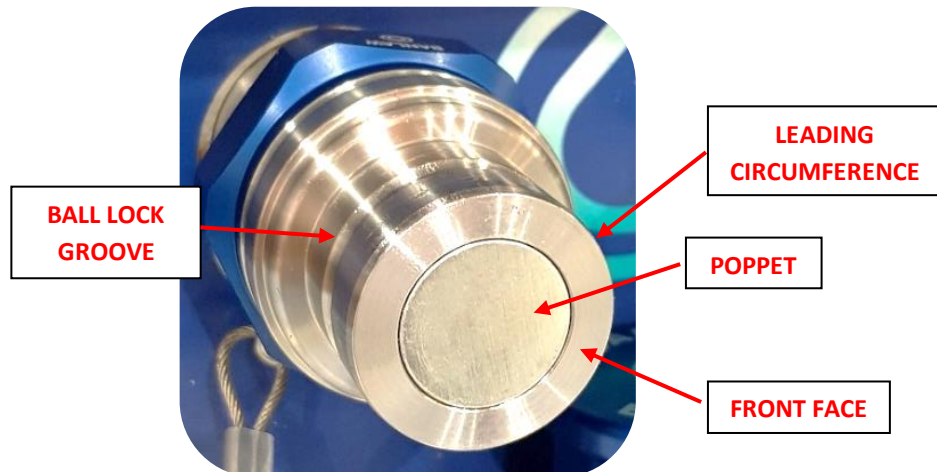
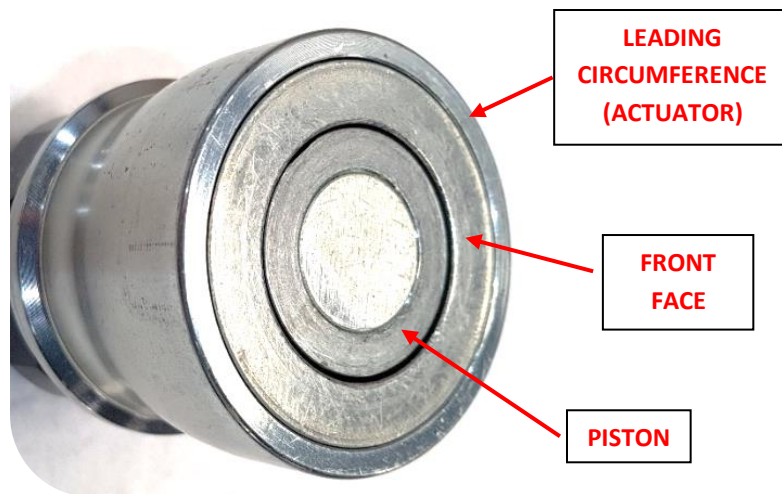

Figure 11 - Critical Areas of Damage on BPL Receivers
Figure 12 - Critical Areas of Damage on BPL Nozzles
- **Closely** inspect the front area of the BPL **Receiver** (Figure 11) and **Nozzle** (Figure 12) for excessive wear or damage;
- **Closely** inspect the front area of the BPL **Nozzle** (refer Figure 12), for signs of damage or excessive wear & tear. Excessive wear or damage may cause problems connecting and disconnecting the couplers but will also introduce the risk of unintentional coupler disconnection – i.e. BPL Nozzle “fly off” – during pressurised liquid transfer. Promptly replace any faulty BPL couplers prior to their next required use or place the coupler(s) “Out of Service” until replacement.